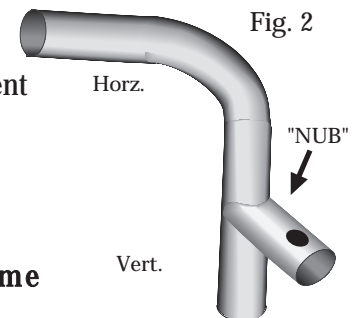

Fig. 2
- A. 2 each Curved upper corners with welded, 3-inch "NUB" (Fig.2)
- 2 each Curved, upper section with spring button snap at one end (X)
- 2 each Aluminum 43" middle tubes with spring button snaps at both ends (Y)
- 2 each Backstay Footers with angled baseplate (Z).
1. VERTICALS: Using 4 alum tubes (C) and 2 Sleeves (B), form the 2 Verticals.
2. Attach Upper Corners (A) to tops of Verticals. NOTE: Welded "NUB" on the bent corner section is part of the VERTICAL aspect. (Fig. 2).
4. Insert Horizontal assembly into Upper Corner Units (A).
5. Assemble the two Backstays (F): Insert the spring button snap end of the curved section (X) into the "NUB." Be sure button snaps through the hole in the "NUB".